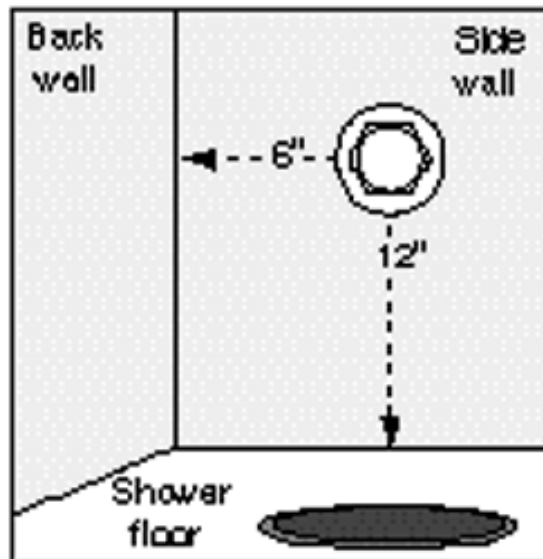

Figure 2
1. Drill a 1.5" diameter hole in the shower wall or wall for the steam outlet line. Refer to figure 2 as a guide for the proper location of the hole.